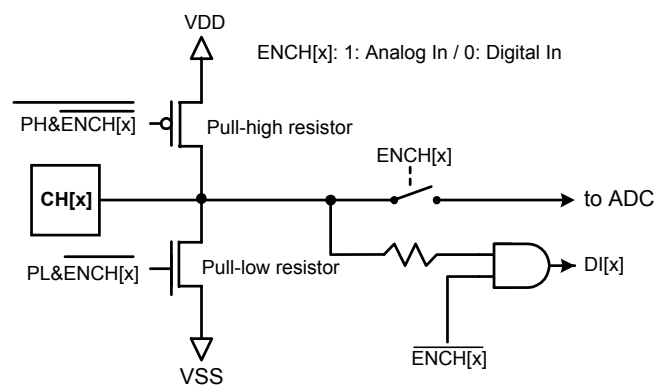

Figure-11 Circuit diagram of the Input Channel PAD
- (1) If any channel is programmed to be analog input mode, then the corresponding internal signal, $ENCH[x]=1$. As in Figure-11, pull-high and pull-low are disabled. And the path to digital input is blocked. All digital reading operation of this channel will get the result “0”.
- (2) If any channel is programmed to digital input mode, then the corresponding internal signal, $ENCH[x]=0$. As in Figure-11, the path to ADC is removed.
- (3) While in digital input mode, this input port can be configured to be floating, weak pull-up, or pull-down by setting the control register PH and PL , where $PH\&PL=1$ is forbidden. The pull-up or pull-low resistor are both around 500K Ω @3v.
- (4) The default status (digital/analog, pull up/down) of all the channels are un-know after power on, so initialize each channel to define a correct state should be done after power on.
- (5) Mode of each channel ($ENCH[x]$) can be set by command 001.